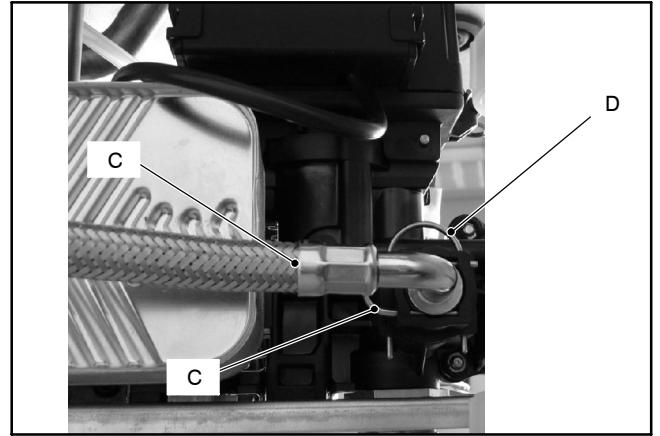

Fig. 75
- 3 Remove the fork *B* and pull out the by-pass pipe *C* (Fig. 75).
- 4 Remove the fork *D* and pull out the by-pass group (Fig. 75).